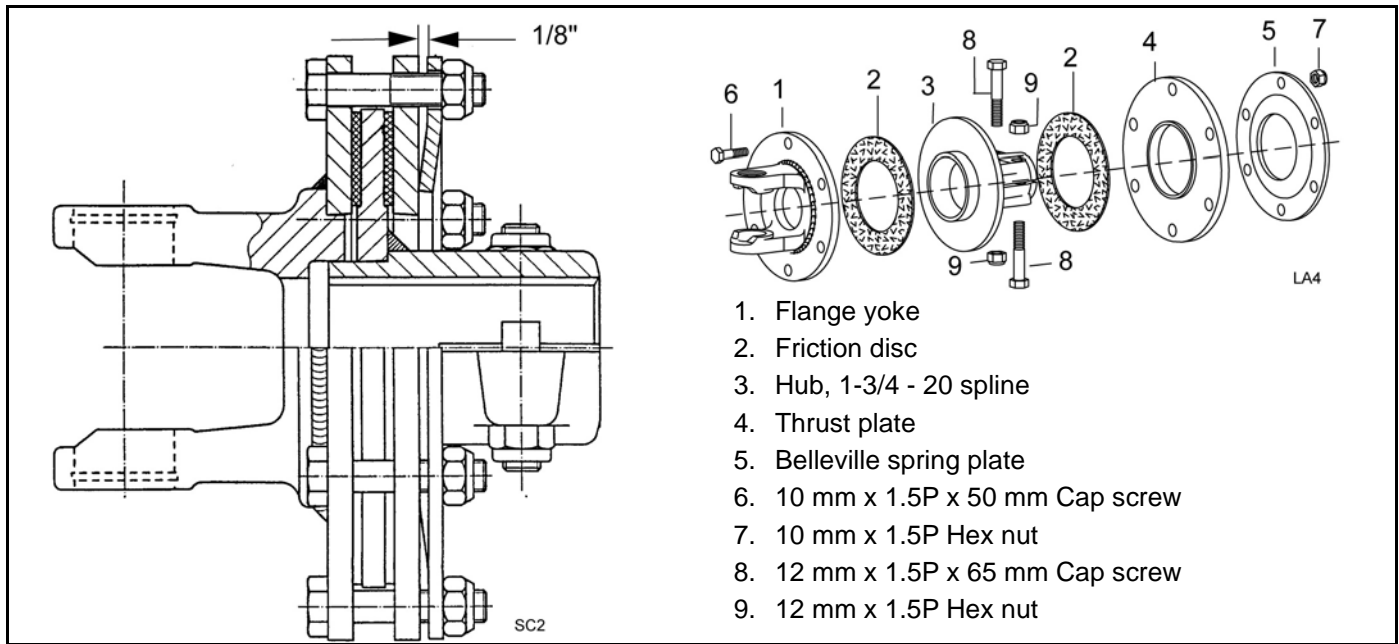

Figure 15. Slip Clutch Assembly
3. Loosen six 10 mm cap screws (6) to remove all tension from Belleville spring plate (5).
4. Hold clutch hub (3) solid and turn shaft to make sure clutch slips.
5. If clutch does not slip freely, disassemble and clean the thrust plate faces (4), flange yoke (1), and clutch hub (3).
7. Tighten Belleville spring (5) until it is against the thrust plate (4) of the clutch, and then back off each of the six nuts by 2 full revolutions. The gap between Belleville spring and thrust plate should be 1/8" as shown in Figure 15.
8. If a clutch continues to slip when the spring is compressed to 1/8" cap, check friction discs (2) for excessive wear. Discs are 1/8" when new. Replace discs after 1/16" wear. Minimum disc thickness is 1/16"